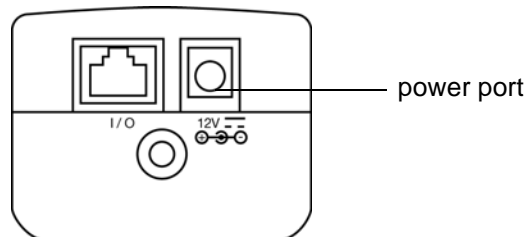

Fig 5-1 : Power Port Location
- 3) Plug the external power supply jack into the HHPC-6 at the power port location, shown in Figure 5-1.